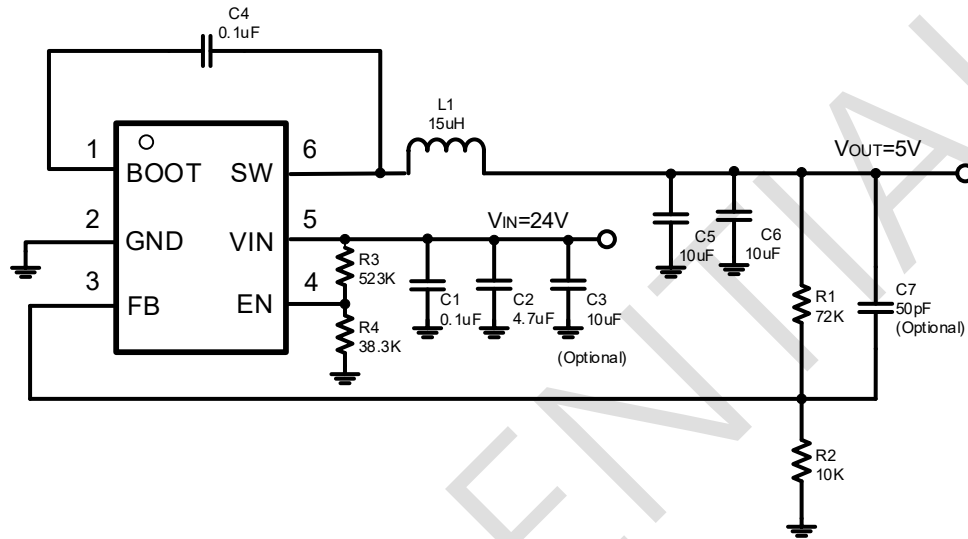
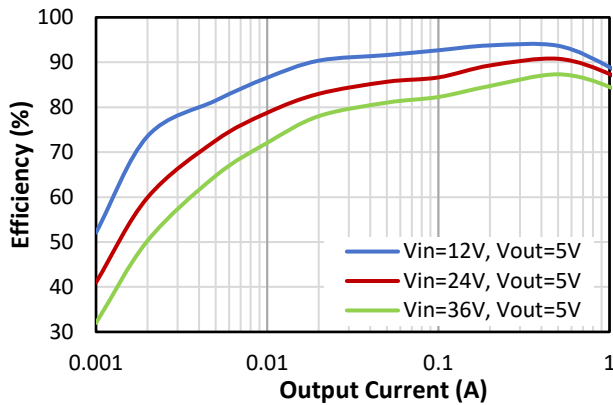
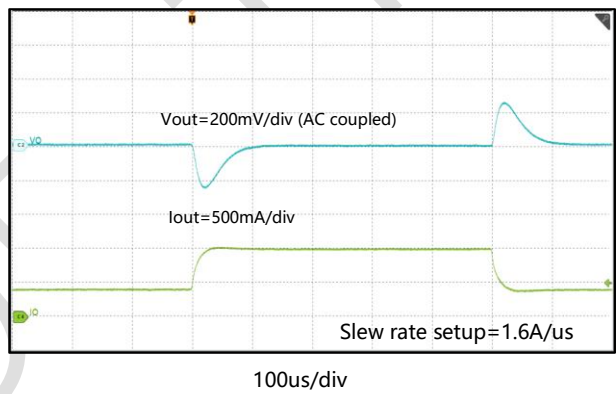

Figure 9. 24V Input, 5V/1A Output
Figure 10. Power Efficiency
Figure 25. Transient Response 0.4A-1A
The GBI1412 output voltage can be easily set up using a resistor divider network R1 and R2 as shown in the typical application circuit Figure 9. Use Equation (4) to calculate the resistor divider values.
Figure 10 through Figure 25 apply to the circuit of Figure 9. $V_{IN} = 24\text{ V}$, $T_A = 25^\circ\text{C}$ unless otherwise specified